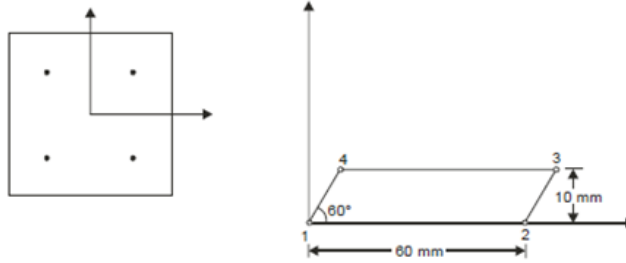

Figure 2
6. Assemble Jacobian matrix and strain displacement matrix corresponding to the Gauss point (0.57735, 0.57735) for the element shown in Figure 2. Then indicate how you proceed to assemble element stiffness matrix. [14M]